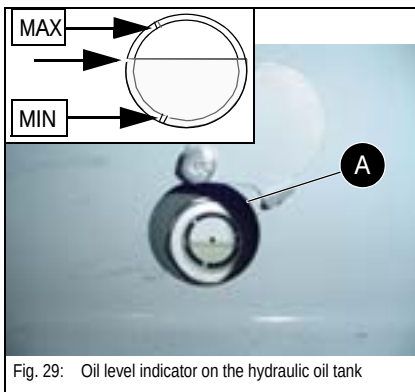

Fig. 29: Oil level indicator on the hydraulic oil tank
- The oil level must be about 1 cm over the centre, between positions MIN and MAX, as shown by the arrows in fig. 29.